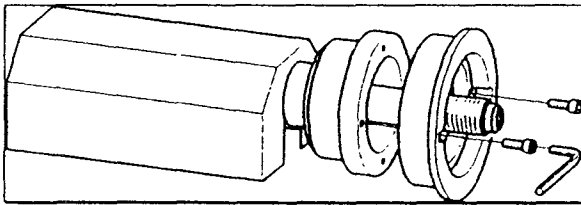

Fig.18
- A. Mount the spacer disc on the balancer shaft (Fig.18).